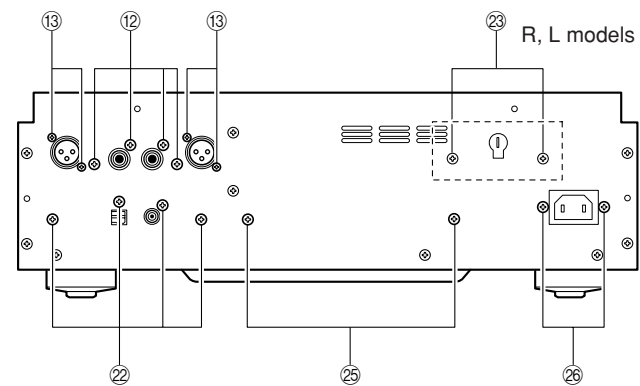

Fig. 5
- b. Remove 4 screws (⑫) and 4 screws (⑬). (Fig. 5)
- b. ⑫のネジ4本、⑬のネジ4本を外します。(Fig. 5)
- b. Remove 4 screws (㉒). (Fig. 5)
- a. Remove 2 screws (㉓). (Fig. 5)
- b. Remove 2 screws (㉕) and 2 screws (㉖). (Fig. 5)